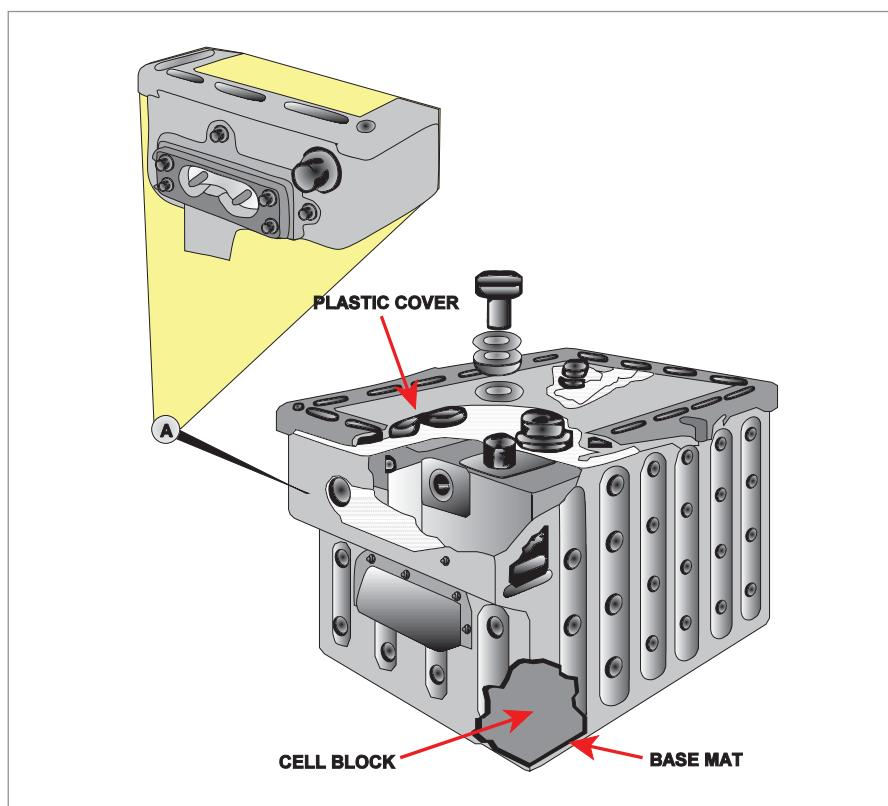
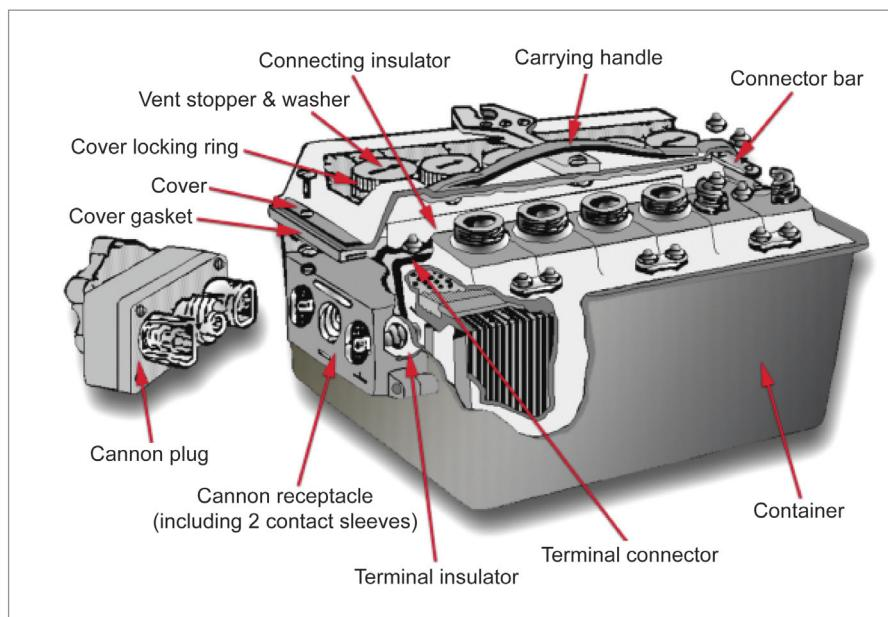

Figure 4.6 Lead acid battery (free liquid type)
Figure 4.7 Lead acid battery (absorbed liquid type)
*Figure 4.6* shows a free liquid type of lead acid battery where the electrolyte is in liquid form. *Figure 4.7* shows an absorbed liquid type of lead acid battery where the electrolyte is absorbed into the active materials in the plates making it less prone to spillage.